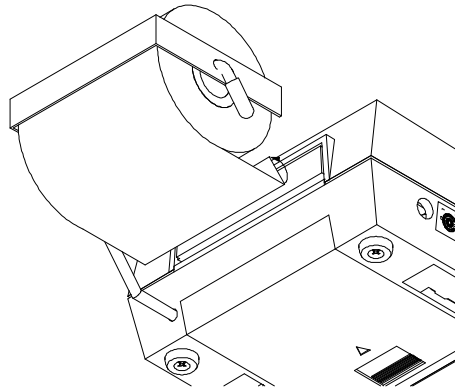

Figure 3-2
2. Fold the end of the thermal paper over creating a straight flat edge as shown in Figure 3-2. This creates a strong edge and allows the paper properly center in the printer when inserting it into the rear paper slot.
3. Insert the paper into the rear paper slot as shown in Figure 3-2. Turn the OM-550 “ON”, then press and hold the **“PAPER FEED”** key to feed the paper through the printer.